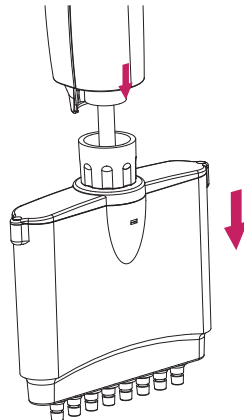

Figure 11: Pull the lower part downward slowly until the cylinder lock appears.
3. Pull the lower part downward slowly until the cylinder lock appears as shown in Figure 11.